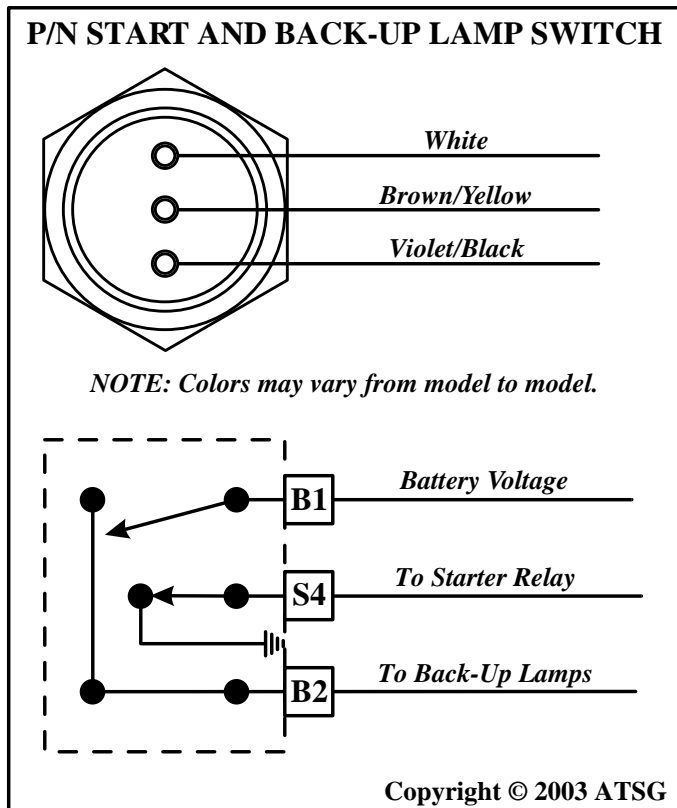

Figure 19
The Park/Neutral starting switch is the center terminal of the 3 terminal switch (See Figure 19). The center terminal provides a ground for the starter solenoid circuit through the internal selector lever in only *Park* and *Neutral* positions.
- (1) Two different tests will be necessary to test the integrity of the switch. To test switch, remove the harness connector from switch and test for continuity between the center pin of switch and transaxle case. Continuity should exist only when transaxle is in *Park* or *Neutral*. Refer to Figure 19 for schematic.
- (2) Check manual lever cable adjustment *before* replacing a switch that tests defective.
- (3) To test the reverse circuit, continuity should exist between the two outside pins of switch. Continuity should exist only when transaxle is in *Reverse*. No continuity should exist from either pin to the transaxle case. Refer to Figure 19 for schematic.